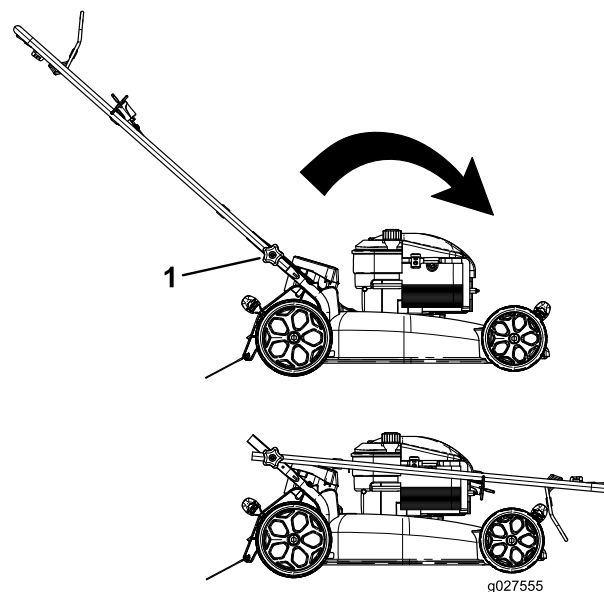

Figure 32
1. Loosen the handle knobs until you can move the handle freely (Figure 32).
1. Handle knob (2)
2. Move the handle forward as shown in Figure 32.